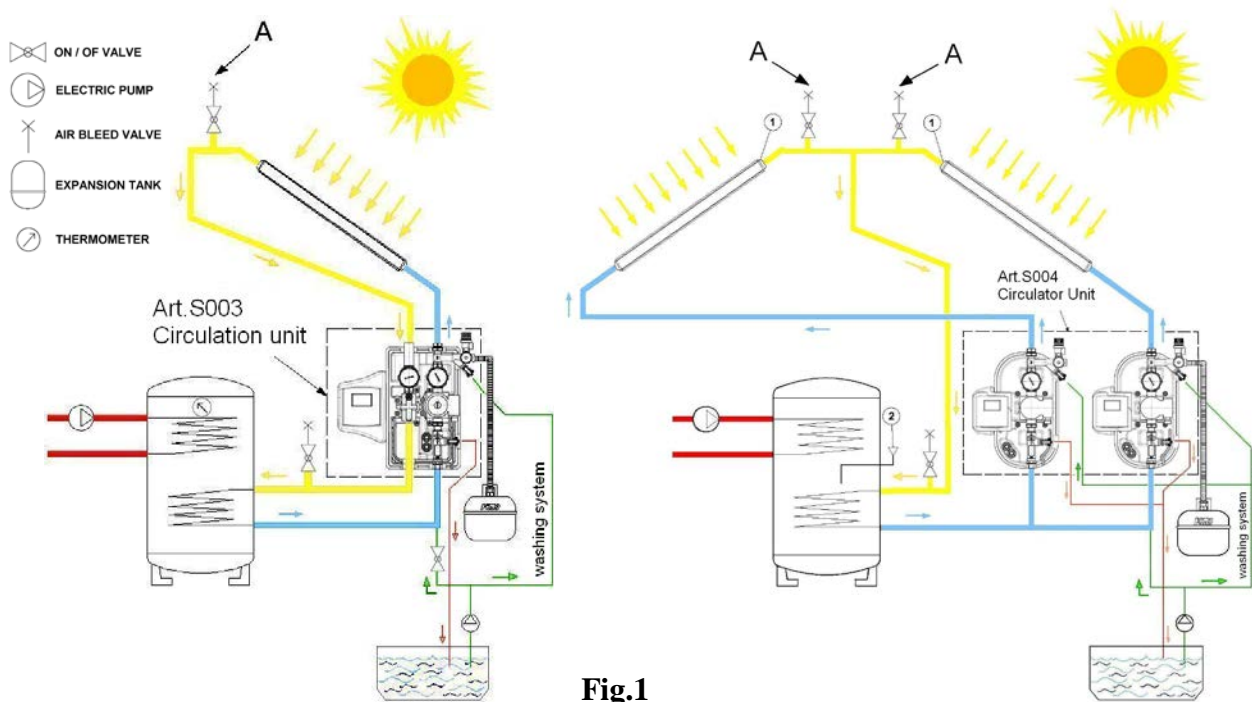

Fig.1
1. Open the shut off valves connected with the air vent valves A (Fig.1). These valves must be located at the highest point of the system to optimize their function of air expulsion from the circuit.
6. Fill the system until air stops coming out of the air vent valves A (Fig.1).
8. Close the shut off valves connected with the air vent valves A (Fig.1).
7. Open both the shut off valves 4 (Fig.1) and let drain any remaining air in the system, then close the valves.
11. After a few hours of operation, remove air from the solar system once again with the air vent valves A (Fig.1) and the deaerator 8 (Tab. 1) when present. After all air has been removed, check once again the pressure in the system with the manometer 2 (Tab.1) and, if necessary, restore the desired operating value as described above in step 2.
1. Open the shut off valves connected with the air vent valves A (Fig.1).